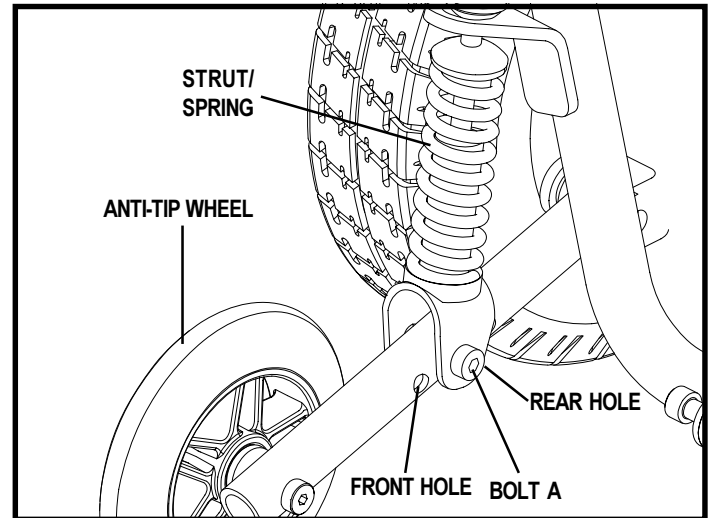

Figure 18. Anti-Tip Wheel Assembly
1. Remove bolt A. See figure 18.